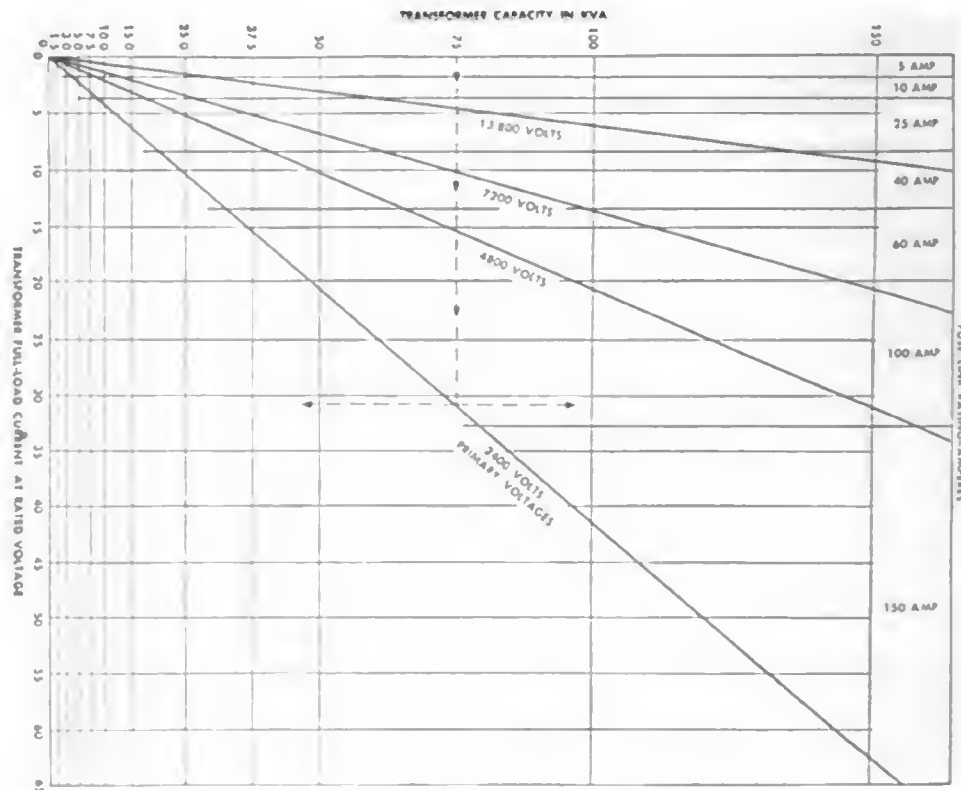

Figure 7-3.—Fuse sizes for single-phase installations.
The rating (size) of the fuse link used in the primary cut-out is also important. If you choose a fuse size that is too small, needless outages will occur. The chart in figure 7-3 will help you pick the correct fuse size. As an example, suppose you have installed a single-phase 75 kv.-a. transformer that operates from a 2,400 volt primary. Using the chart, first find the transformer capacity (75) on the ordinate. Then proceed horizontally until you intersect the primary voltage line (2,400 volts). The point of intersection lies in the 100-ampere fuse-link area. Therefore, for this particular installation you would use a 100-ampere fuse.